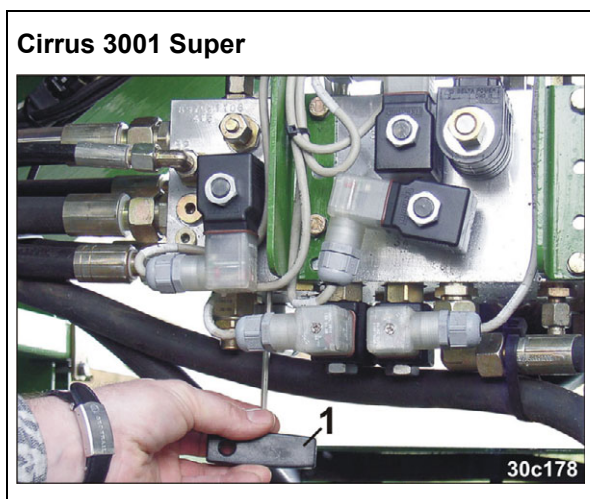

Fig. 198
2. Release screw no. 22 in the control block with the hexagon socket wrench (1) up to the stop for the machines
- o Cirrus 3001 Super (Fig. 198)
- Insert the screw (Fig. 198/1)